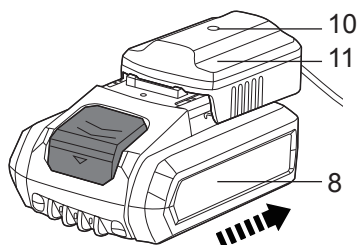

Fig. 4
- > Slide the battery pack (8) into the charger base (11) until it locks in place (Fig. 4).
- > Connect the charger (12) to the power supply. The indicator light (10) lights in red when battery is charging and green when charging is finished.